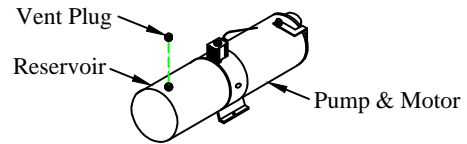

Figure 17: Vent plug.
7. **Install** the vent plug provided into the pump reservoir (Figure 17).